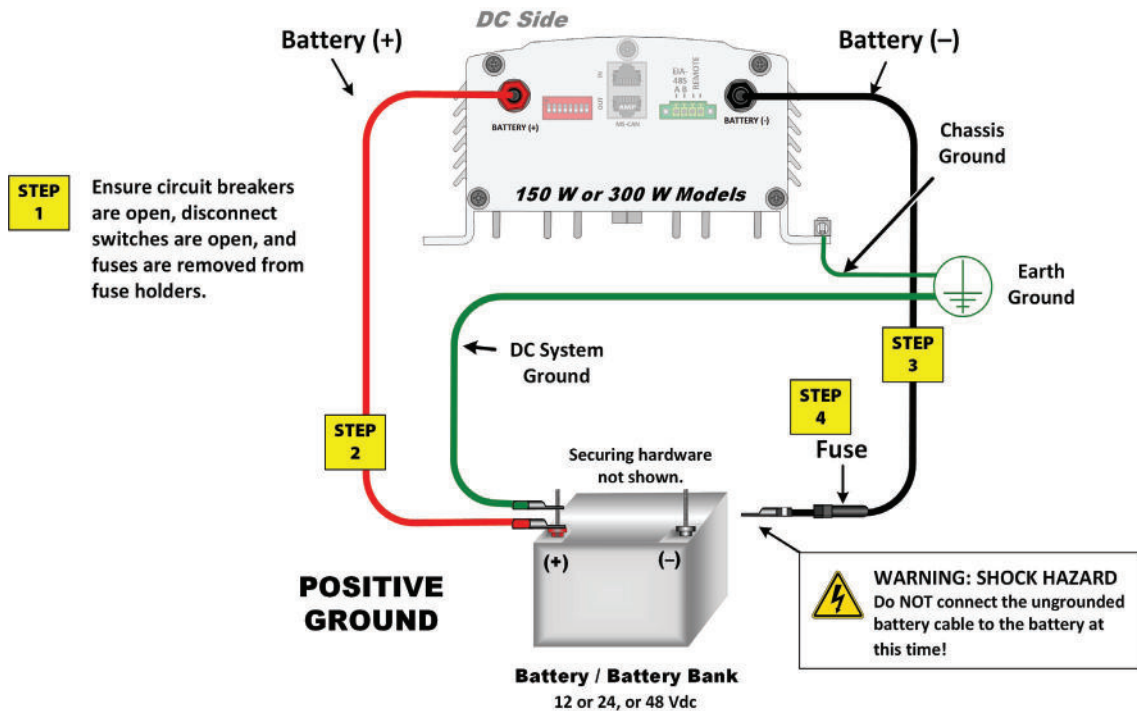

Figure 17: DC Connections on 150 W & 300 W Models with Positive Grounding
- **For 150 W & 300 W Models:** See Figure 17 on page 24